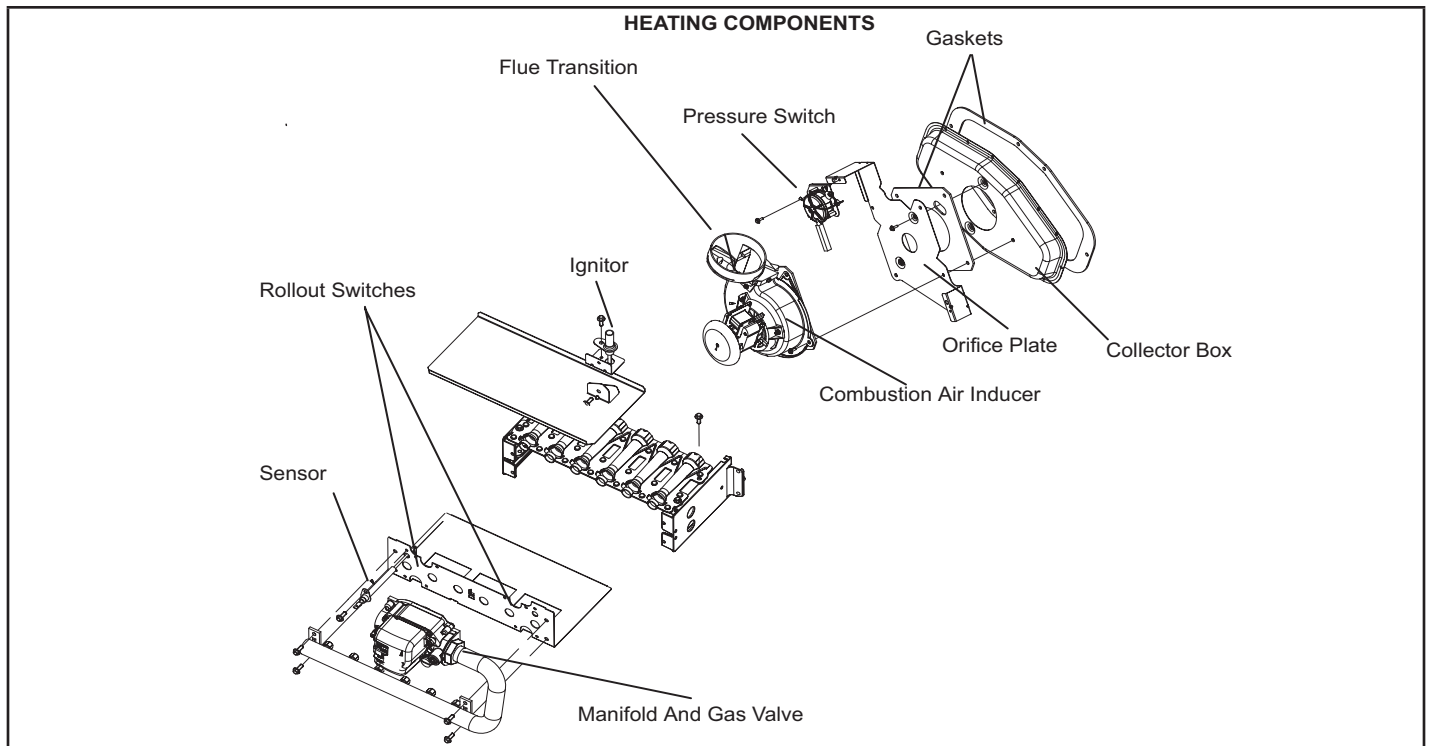

FIGURE 6
5. Flame Rollout Switches (Figure 6)
7. Flame Sensor (Figure 6)
8. Gas Valve (Figure 6)
10. Ignitor (Figure 6)